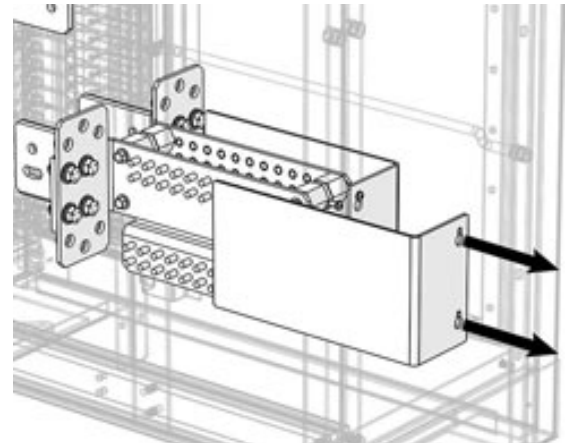

Figure 16. RTN Output Bus Plastic Cover
- Step 1. Remove the return output bus plastic safety covers (see Figure 16).